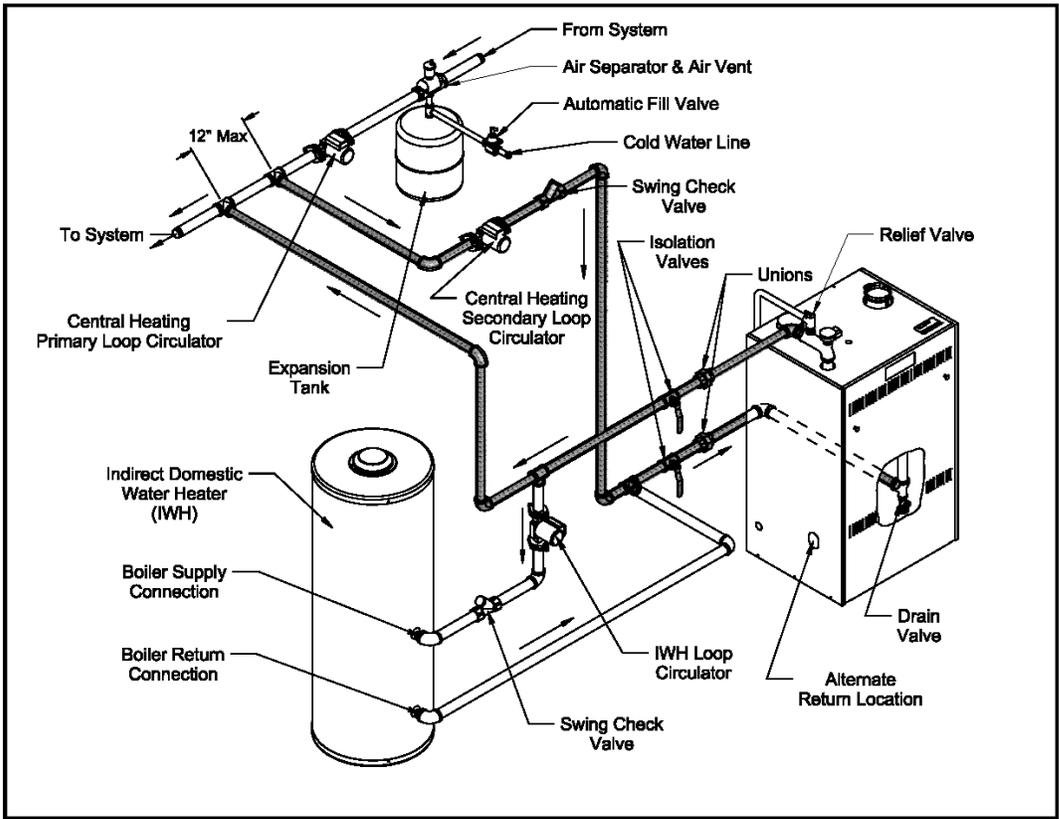

Figure 8.4a: Piping Method #1 - Secondary Loop Piping (Shaded)
- a) Count all fittings in the planned secondary loop (the secondary loop consists of the shaded piping in Figure 8.4a). In doing so, do not count the secondary connection tees, unions, or the fittings supplied with the boiler (these have already been accounted for).